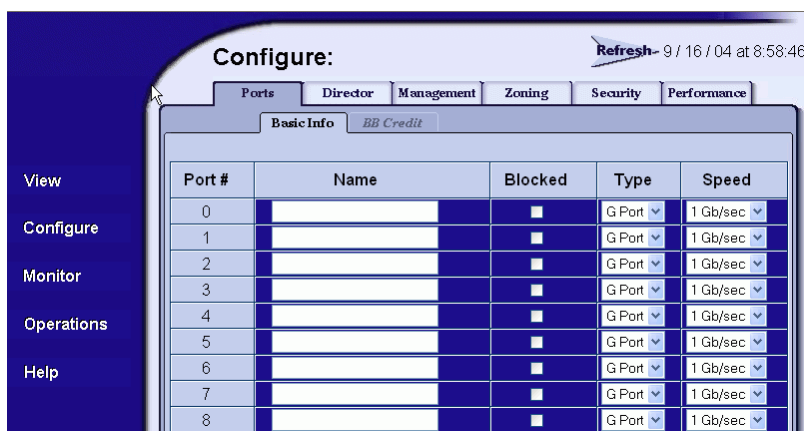

Figure 2-65 Configure Panel (Ports Page with Basic Info tab)
1. At the *View* panel, select the *Configure* option at the left side of the panel. The *Configure* panel opens with the *Ports* page displayed (Figure 2-65). Use the vertical scroll bar to display additional port information rows.
1. At the *View* panel, select the *Configure* option at the left side of the panel. The *Configure* panel opens with the *Ports* page displayed (Figure 2-65). Select the *BB Credits* tab is selected. Use the vertical scroll bar to display additional port information rows.